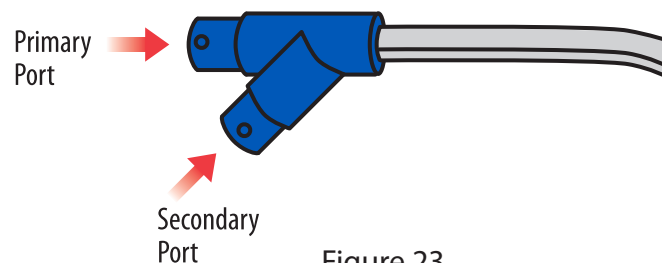

Figure 23
**WARNING:** When using the Occlusion Detection Y Connector to treat multiple wound sites, the CATALYST™ only detects blockages in the wound site connected to the primary Occlusion Detection Y Connector port (**Figure 23**).
2. Connect the Twist N' Connect™ tubing for each wound to the bifurcated end of the Y Connector (**Figure 23**).